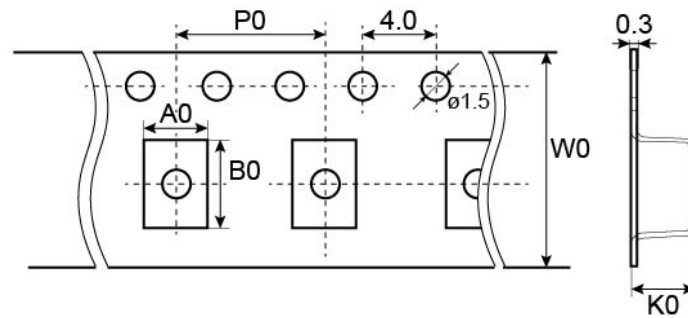

Figure 7 - Tape drawing
(1) Other film frame carrier are possible on request
(2) Au = TiWAu(0.3μm) / Au (3μm)
(3) Refer to Figure 7
(4) missing capacitors can reach 0.5%